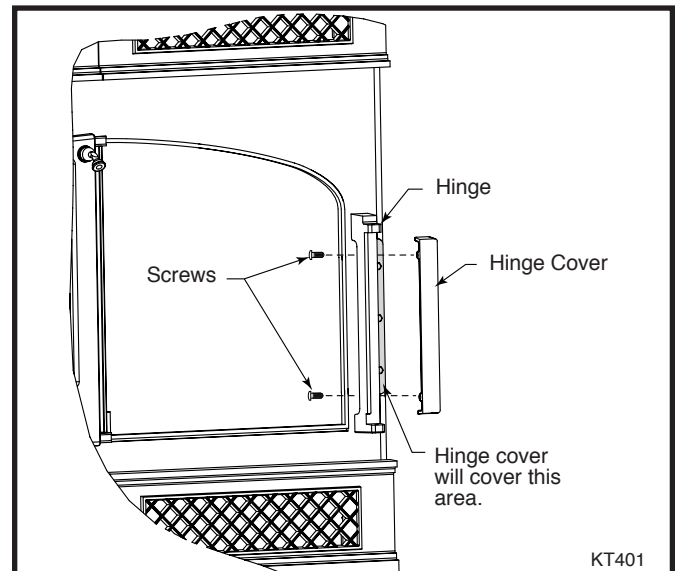

Fig. 3 Install hinge cover.
1. Align hinge cover on outside of hinge with holes located in the hinge. (Fig. 3)